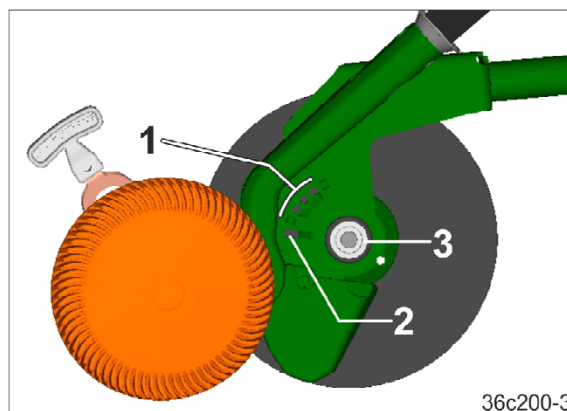

Fig. 173
1. Insert the coulter disc onto the locking mechanism (Fig. 173/3). In doing so, the shoulder of the coulter body engages in the elongated slot (Fig. 173/2).
2. Push the coulter disc into the elongated slot (Fig. 173/2) until the coulter disc engages in the locking mechanism. A light knock on the centre of the disc helps to latch it into position.
3. Pull the shoulder out of the elongated slot using the lever and allow it to engage in the catch (Fig. 173/1).